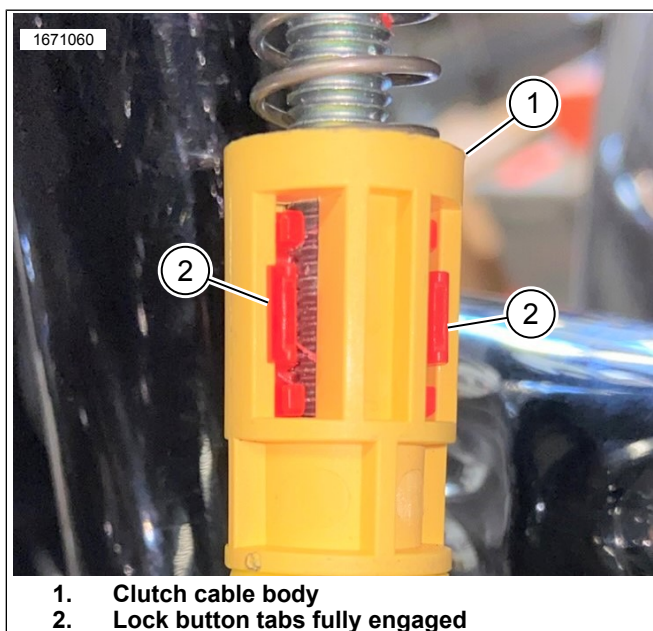

Figure 6. Correctly Installed Button
1. See Figure 6. Lock button tabs are fully engaged (2) to clutch cable body (1).